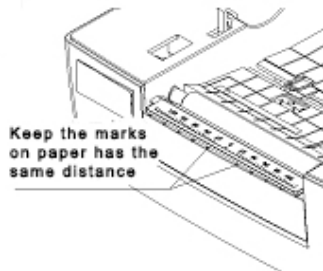

Figure 2.2.4
- ✧ The front end of paper roll should be in the middle of the platen roll as possible as it can. This could be positioned with the mark of peel-off plate(see figure 2.2.4).